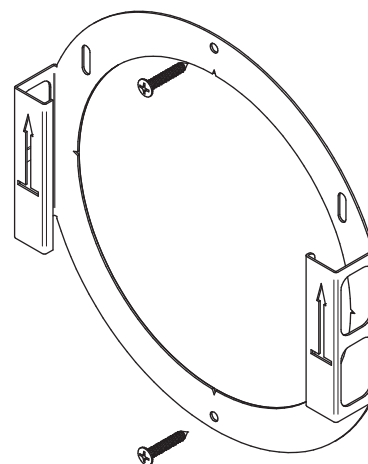

Figure 01 - The frame has to be mounted to the wall with fixing screws through the holes of the frame
- Each frame part is marked with an arrow symbol. The arrow is pointing to the ceiling for a proper wall mounting (See: Figure 01).
- The center line of the frame (horizontal position), is marked with two „>” -shaped signs for easier marking during hole-making and drilling (See: Figure 01-a).
- The frame part is secured with screws (not included) via the pre-drilled holes (See: Figure 01-d).